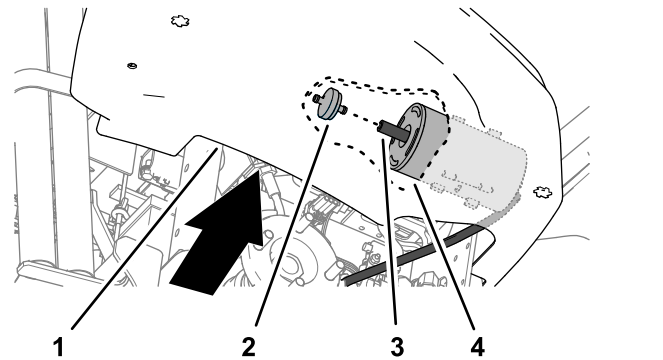

Figure 32
4. Reaching around the lower, inboard edge of the console, pull the carbon-canister filter rearward and out of the hose at the end of the carbon canister (Figure 32).
5. Insert a new carbon-canister filter into the hose at the end of the carbon canister (Figure 32).